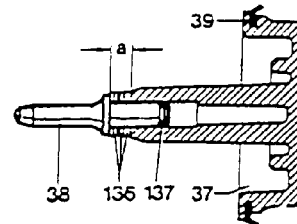

FIGURE 5
As of April 1986 production, the above-mentioned transmissions are equipped with a modified brake band piston B1 with removeable pressure pin (previously caulked). The pressure pin (38) is held in place in the piston by an O-ring 1.0 mm and 1.5 mm thicknesses (Figure 5).